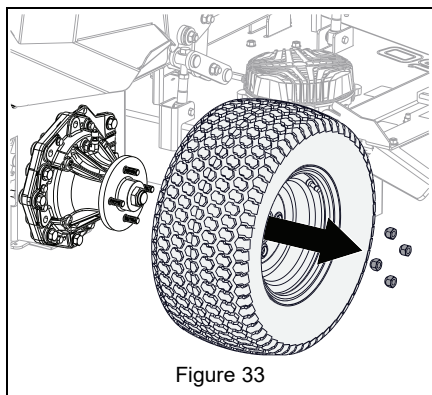

Figure 33
5. Remove drive wheel. See Figure 33.